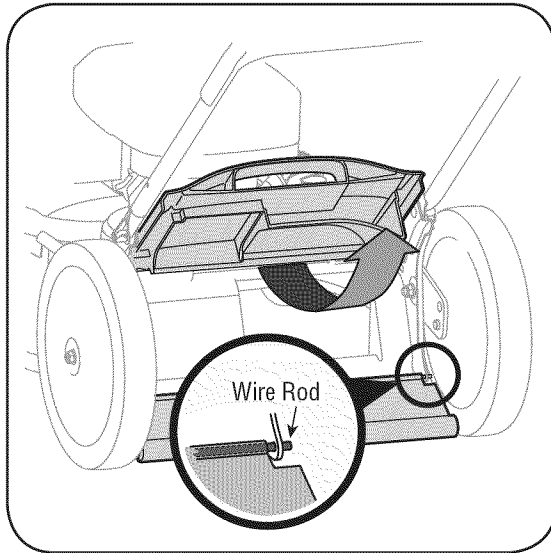

Figure 5-2: Cut rod to remove rear flap.
1. To remove rear flap, cut off the flat end of the wire rod which secures it to the deck, Figure 5-2.